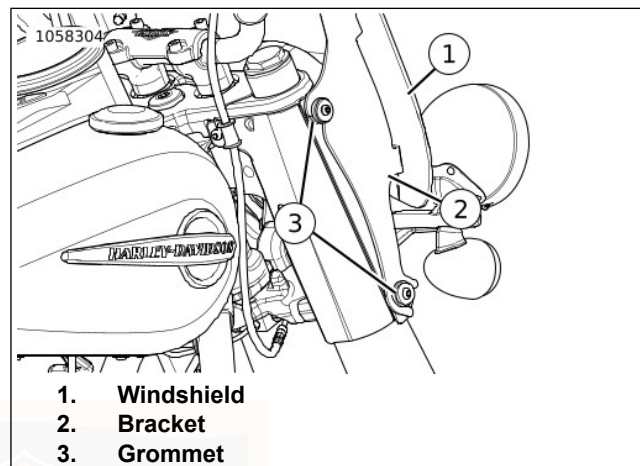

Figure 42. Windshield Assembly
1. See Figure 42. Move the TOP of the windshield assembly (1) forward, until the TOP bracket (2) notches slide away from the grommets (3).
1. See Figure 42. Verify grommets (3) and brackets (2) are in place and in good condition.